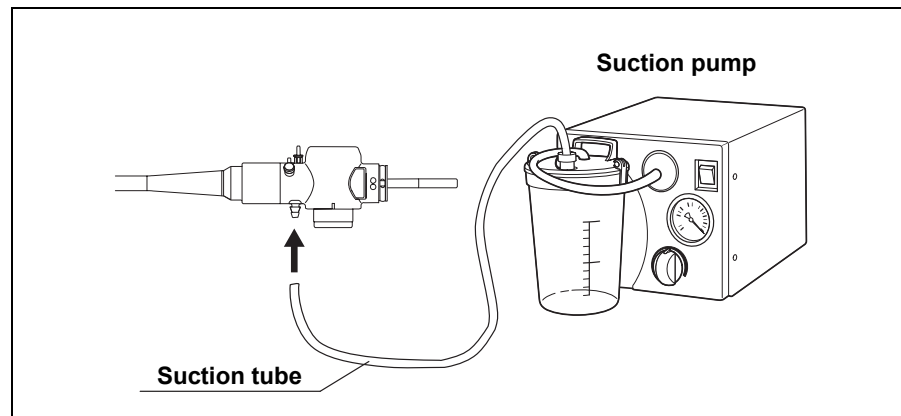

Figure 3.27
8. Connect the suction tube from the suction pump to the suction connector on the endoscope connector (see Figure 3.27).